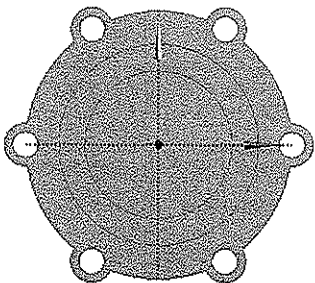

Figure 4-62 Two circles created on the new plane
- 6. Move the cursor away from the origin and click at a point such that the radius of the circle is smaller than the radius of the surface on which it is created, refer to Figure 4-62.
- 7. Similarly create another circle with a radius smaller than the radius of the circle created previously, refer to Figure 4-62.